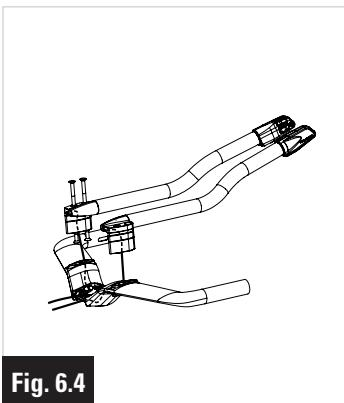
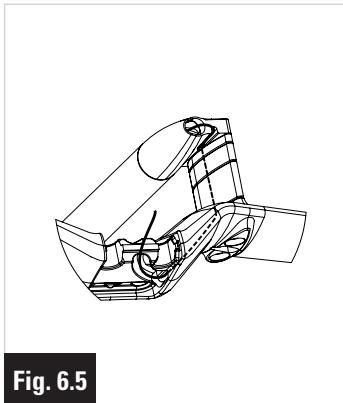

Fig. 6.4
Fig. 6.5
- 3- **Assembling extensions to the bar.** Feed the wires into the oblongs at the support fixing level up to the central holes in the bar (fig 6.4). Pull the wires tight in the extensions, and position them in the groove in the extension supports (fig 6.5). Tighten the wires in the bar again and screw the extension supports onto the bar.